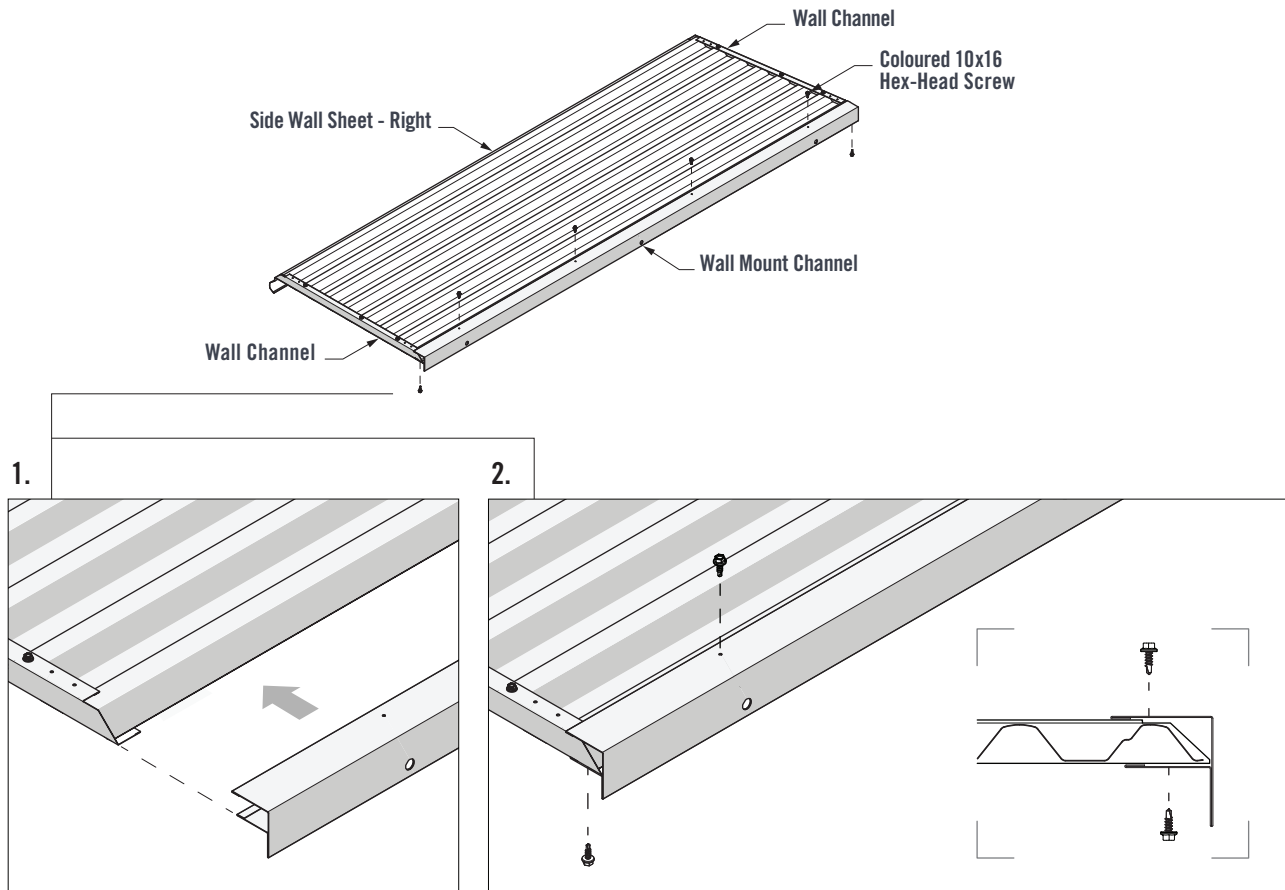

FIGURE 3.3
1. Fit the Wall Mount Channel over the Side Wall Sheet (Right). The end of the Wall Mount Channel should fit up against the end of the Wall Channel (Figure 3.3).
2. Fasten six Coloured 10x16 Hex-Head Screws through the pilot holes of the Wall Mount Channel and into the Side Wall Sheet (Right) and Wall Channels (Figure 3.3).